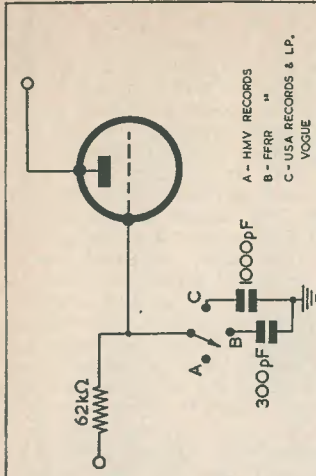

FIG.3. Universal top correction circuit for all the usual types of recording characteristics
To save the reader the bother of calculating these networks, typical values for a "universal network" are given in the circuit of Fig. 3. The first switch position (A) has no correction condenser and serves for HMV and other EMI Record Companies that employ no treble boost on recordings. The second position gives correction for the Decca FFRR treble boost, and the third position serves for both Long Playing records and for 78 rpm American recordings. As previously explained, many records made with American characteristics are issued on British Labels. Thus Vogue and Capitol records may have either a U.S.A. characteristic, or in a few cases a Decca FFRR type of recording curve, according to information supplied by the Vogue Record Company.